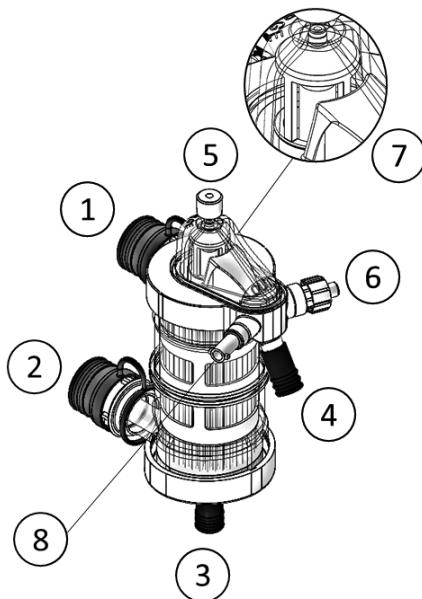

Fig. 1
The device (Fig. 1) has been designed to heat/cool cardioplegic solution during extracorporeal circulation. The device is equipped with an integrated bubble trap filter (ref. 7 in Fig.1). The device is available in the versions listed in Table 1 – section D. The device is sold sterile in a blister pack in a multiple box of 4 units. All the device surfaces in contact with blood are treated with a phosphorylcholine-based biocompatible coating. Contact with cardioplegic solution for a period of more than 6 hours is not permitted. The device has been designed to be powered by heaters coolers that use a glycol-based heat transfer fluid (HTF). The device must be used in combination with the medical devices listed in section J in these instructions for use.